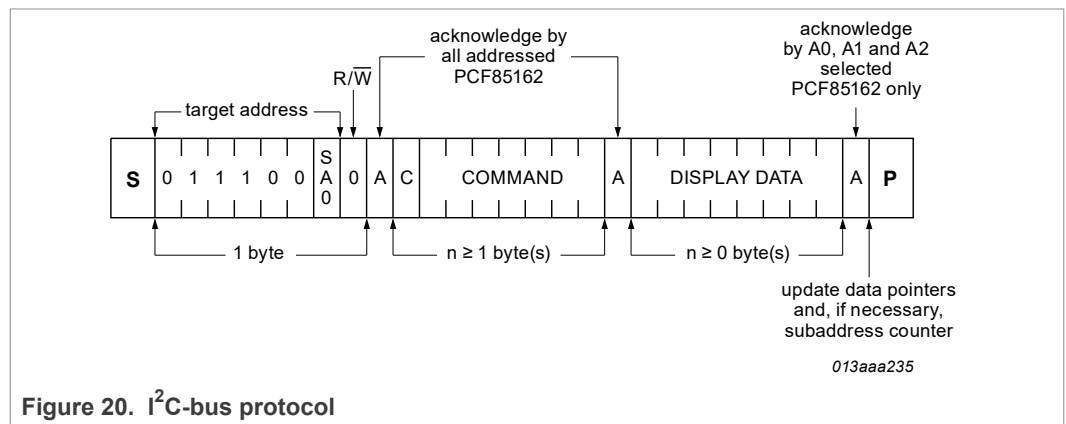

Figure 20. I2C-bus protocol
The I2C-bus protocol is shown in Figure 20. The sequence is initiated with a START condition (S) from the I2C-bus controller which is followed by one of the two possible PCF85162 target addresses available. All PCF85162 whose SA0 inputs correspond to bit 0 of the target address respond by asserting an acknowledge in parallel. This I2C-bus transfer is ignored by all PCF85162 whose SA0 inputs are set to the alternative level.